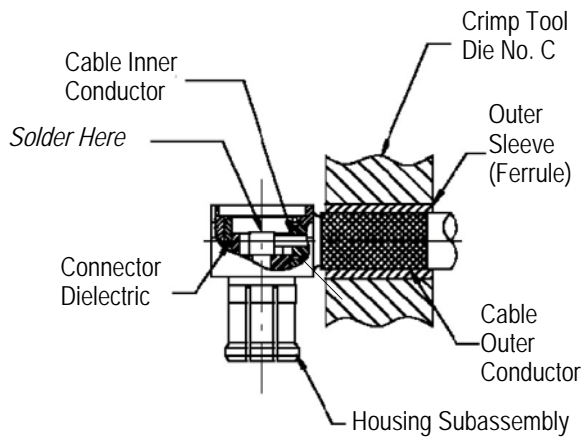

Figure 3
2.2. Soldering the Center Contact to the Cable Inner Conductor (Figure 3)
2.3. Crimping the Connector to Cable (Figure 3)